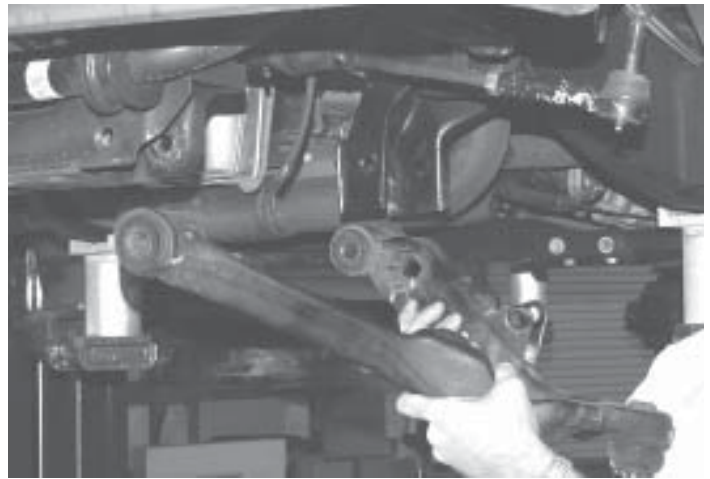

Fig. 11
11. Remove lower control arm pivot bolts and remove lower control arm. (**Fig. 11**) (Save these fasteners for use during re-assembly). Repeat on other side.